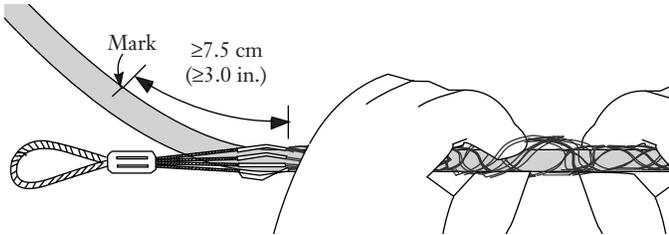

Figure 7
4.6 Use a pumping action to “walk” the grip over the cable by bringing your hands together and then relaxing them until the end of the grip is at least 7.5 cm (3 in.) beyond the mark made in step 4.5 (Figure 7).